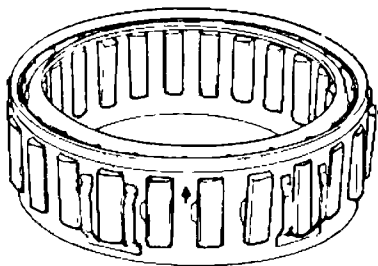

Fig. AT-71 One way clutch
3. Install one-way clutch so that the arrow mark "→" is toward front of vehicle. It should be free to rotate only in clockwise direction. See Figure AT-71.